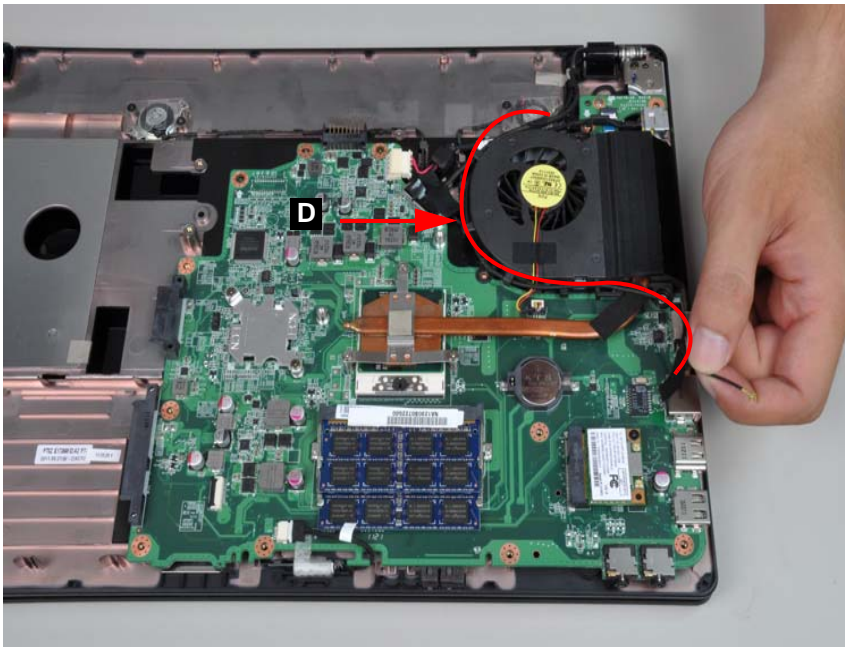

Figure 3-20. WLAN Module
4. Disconnect antenna cables (D) from module (Figure 3-20).
2. Secure the antennas to the cable guides on the thermal module. Refer to Figure 3-20.